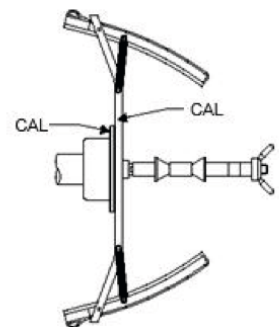

Figure F4.1. Application of the motorbike flange onto the shaft. Align the writing "Cal" on the flange and on the flange for motorbikes
2. Apply the flange on the shaft for motorbike wheels as shown in Figure F4.1.